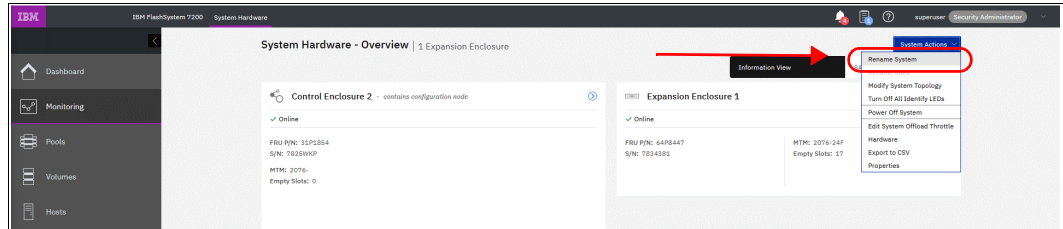

Figure 4-110 Actions menu in the System Hardware - Overview window
1. Select **Monitoring** → **System Hardware - Overview**, and click **System Actions** in the upper right of the window, as shown in Figure 4-110.